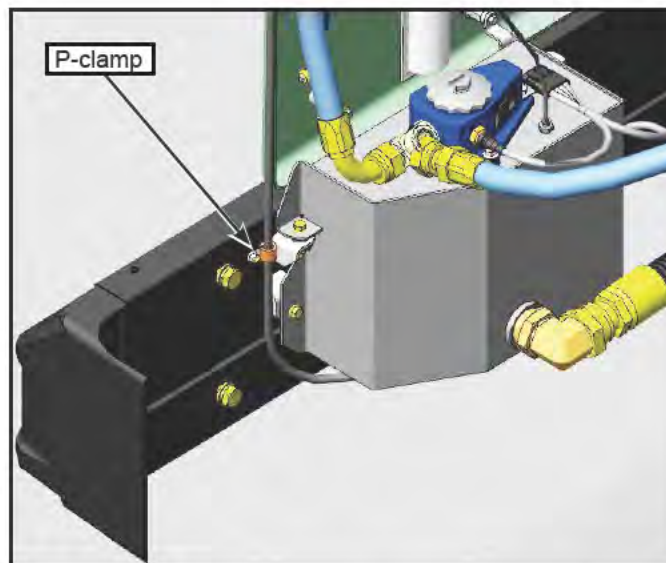

Figure 10 - Detach Braided Hose from Structure
- 1.8. Remove P-clamp holding the braided hose to the structure. See Figure 10.